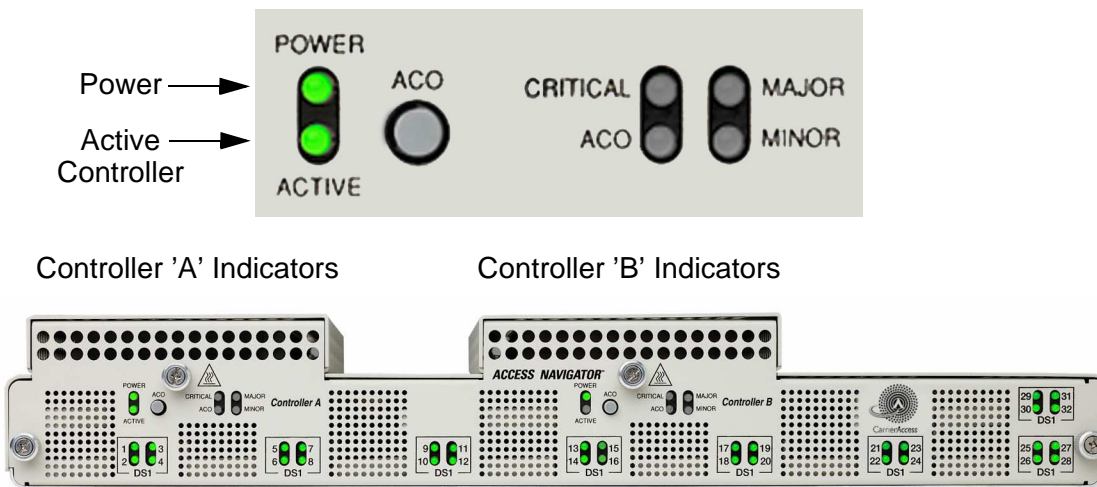

Figure 6-26. Location of Front Panel Power-On Status LEDs
1. Apply -48 VDC power to Access Navigator and verify the following front panel status indications (see Figure 6-26).